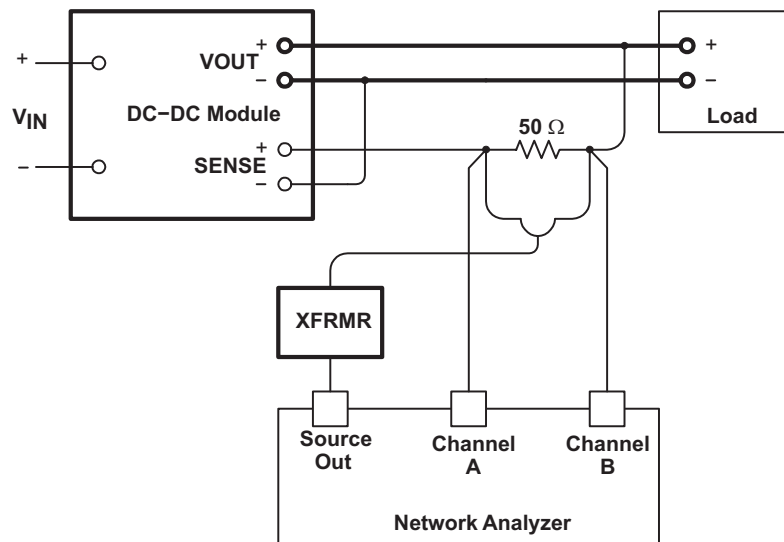
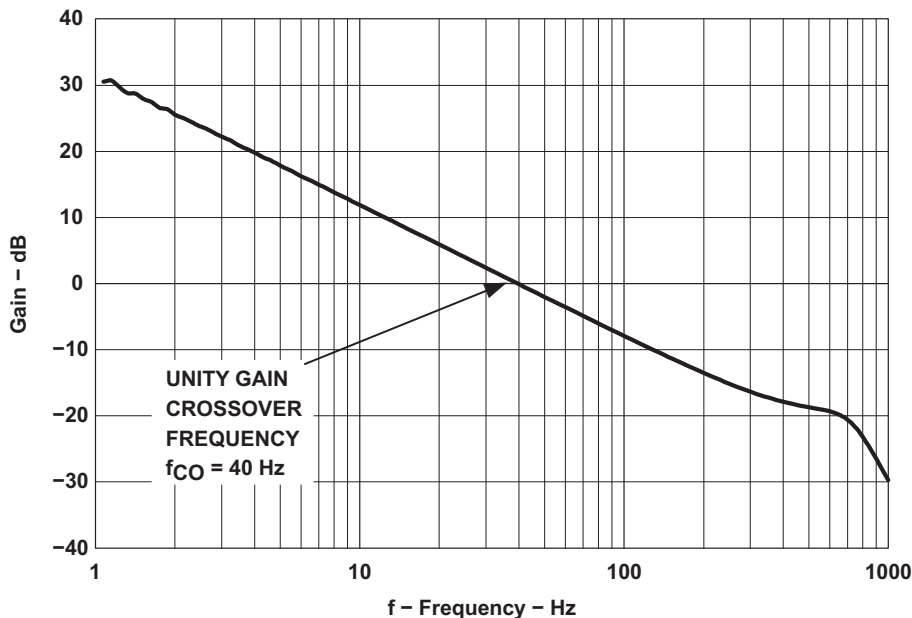

Figure 7. Unity-Gain Crossover Frequency Measurement Connection Diagram
Figure 8. Power Module Bode Plot
Using the configuration in Figure 7, measure the unity-gain crossover frequency of the power modules to be paralleled. A typical resultant bode plot is shown in Figure 8.
The total load-share loop unity-gain crossover frequency, f_{CO} , must be set at least one decade below the measured crossover frequency of the paralleled modules previously measured, $f_{CO(module)}$. (See Figure 8) Compensation of the transconductance error amplifier is accomplished by placing the compensation resistor, R_{EAO} , and capacitor, C_{EAO} , between EAO and GND. The values of these components is determined using Equation 8 and Equation 13.
- $G_{MODULE}(f_{CO})$ is the measured value of the gain from Figure 8, at the desired crossover frequency.